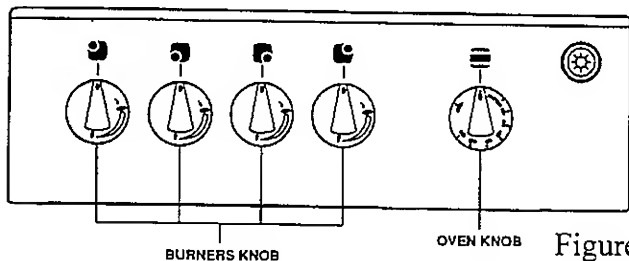

Figure 9
- The surface burners are controlled by knobs located on control panel at front side of the appliance, as seen in Figure 9.
- The oven is controlled by a knob located at left side of control panel. (See Figures 9 & 10)
The switch located at the extreme right of the control panel turns the oven light on and off (See Figure 9). When the button is depressed, the light will be on. (DGR-240 only)
The knob controlling the oven burner is also used for operating the broiler burner. (See Figure 9) When the knob is turned in clockwise direction, it controls the broiler.